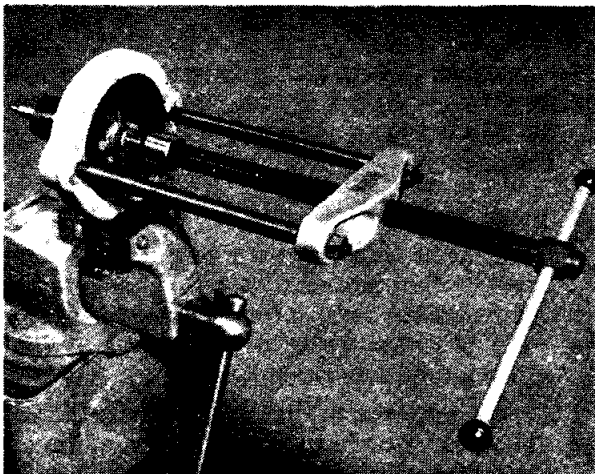

Fig. 8 Utilising the Churchill Tool No. FTS 127 to remove the Water Pump Impeller.
- (c) Utilising the Churchill Tool No. FTS. 127 remove the impeller and rubber seal as shown in Fig. 8.